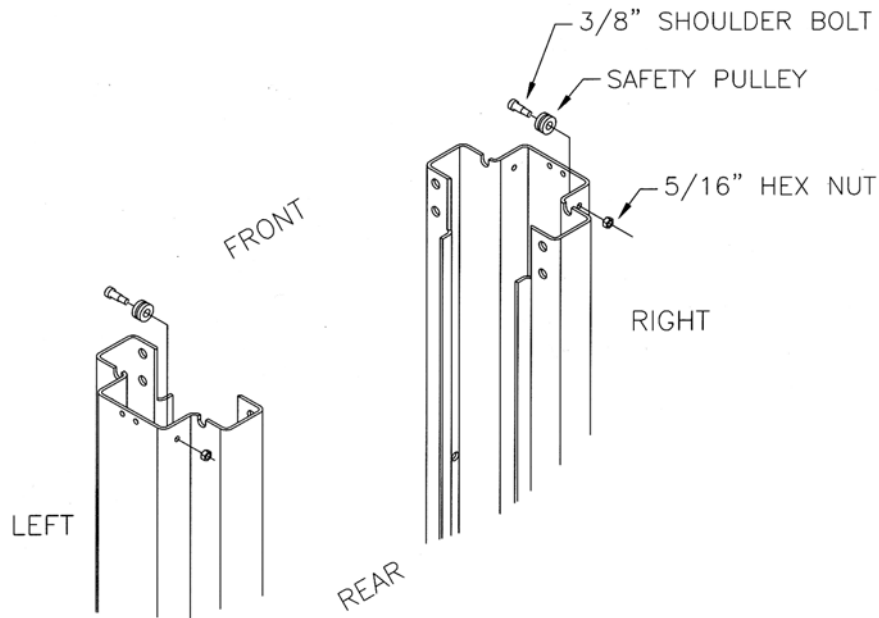

Figure 11 - Safety Release Pulley Installation
1. Install the safety pulley on each tower as shown in **Figure 11**. Attach the safety pulley to the tower using the 3/8" x 5/8" LG. shoulder bolt, 5/16" lockwasher and 5/16" hex nut.